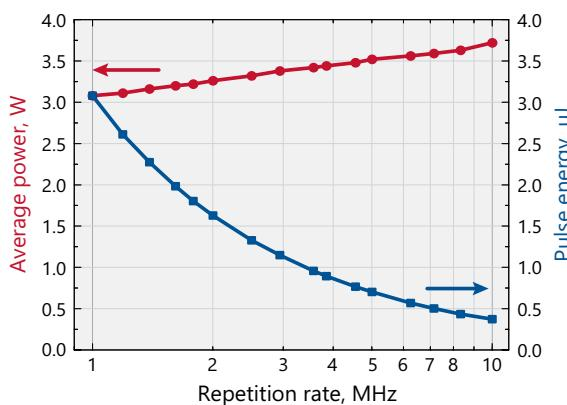
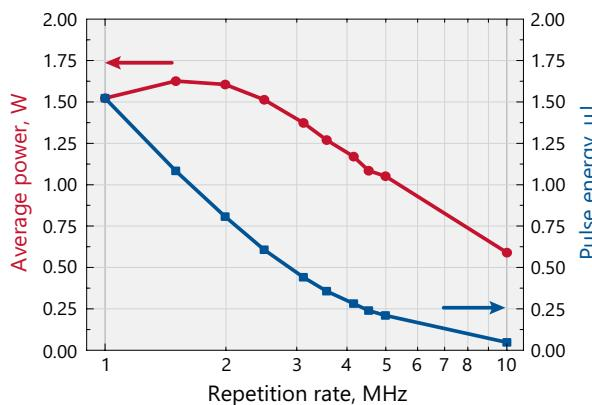

Fig 1. Typical dependence of output power and pulse energy of FemtoLux 3 laser at 1030 nm when changing internal repetition rate of the laser
Fig 2. Typical dependence of output power and pulse energy of FemtoLux 3 laser at 515 nm on pulse repetition rate
- 2) See typical power and energy curves for other pulse repetition rates at Fig 1., Fig 2. and Fig 4.